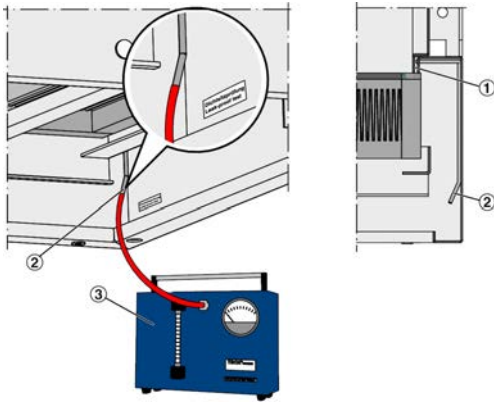

Fig. 9: Sealing integrity test
1. ▶ Connect the sealing integrity test device (Fig. 9/3) to the connection point on the filter (Fig. 9/2).
2. ▶ Apply at least 8.04 in wg to the test groove (Fig. 9/1).